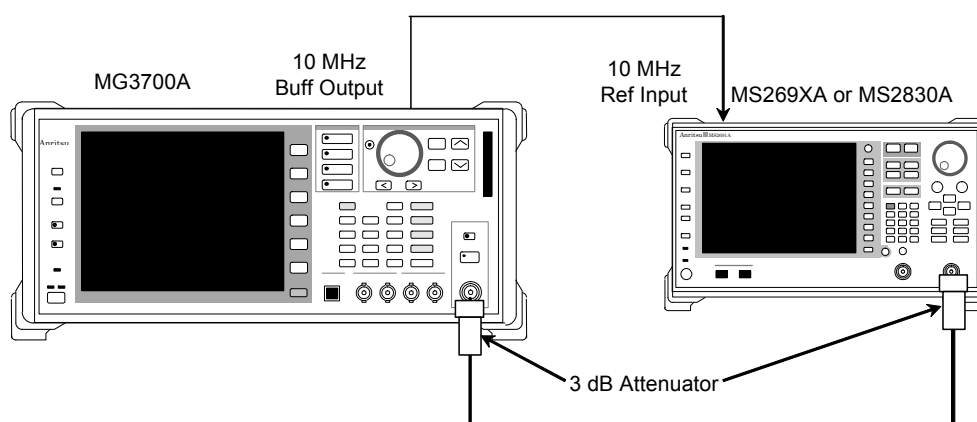

Figure 6.3.3-1 Linearity Calibration
1. Setup the instruments as shown in Figure 6.3.3-1.
2. Set the signal analyzer (SA) as shown in #1 of Table 6.3.3-1 “Signal Analyzer Settings”.
3. Set the vector signal generator (SG) as follows: